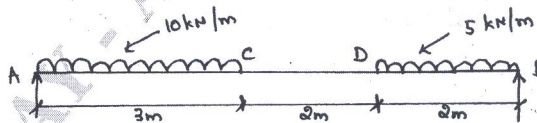

Fig.Q3(b)
- Draw SFD and BMD for a simply supported beam shown in Fig.Q3(b). Also find the maximum bending moment and its location.